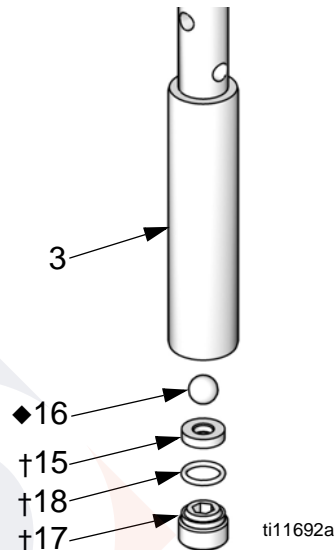

FIG. 5. Replace piston ball and seat.
13. Remove the o-ring (18†), seat (15†) and ball (16◆). See FIG. 5.